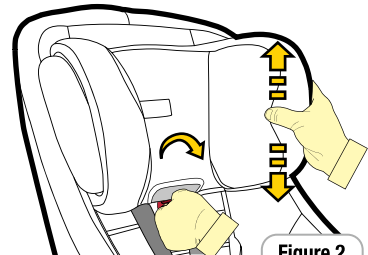

Figure 2
**Step 3:** Lift up or push down the headrest so that the shoulder strap slots are level with or slightly above your child's shoulders. If the headrest is just above the shoulders then the harness level will be correct (refer Figure 2).